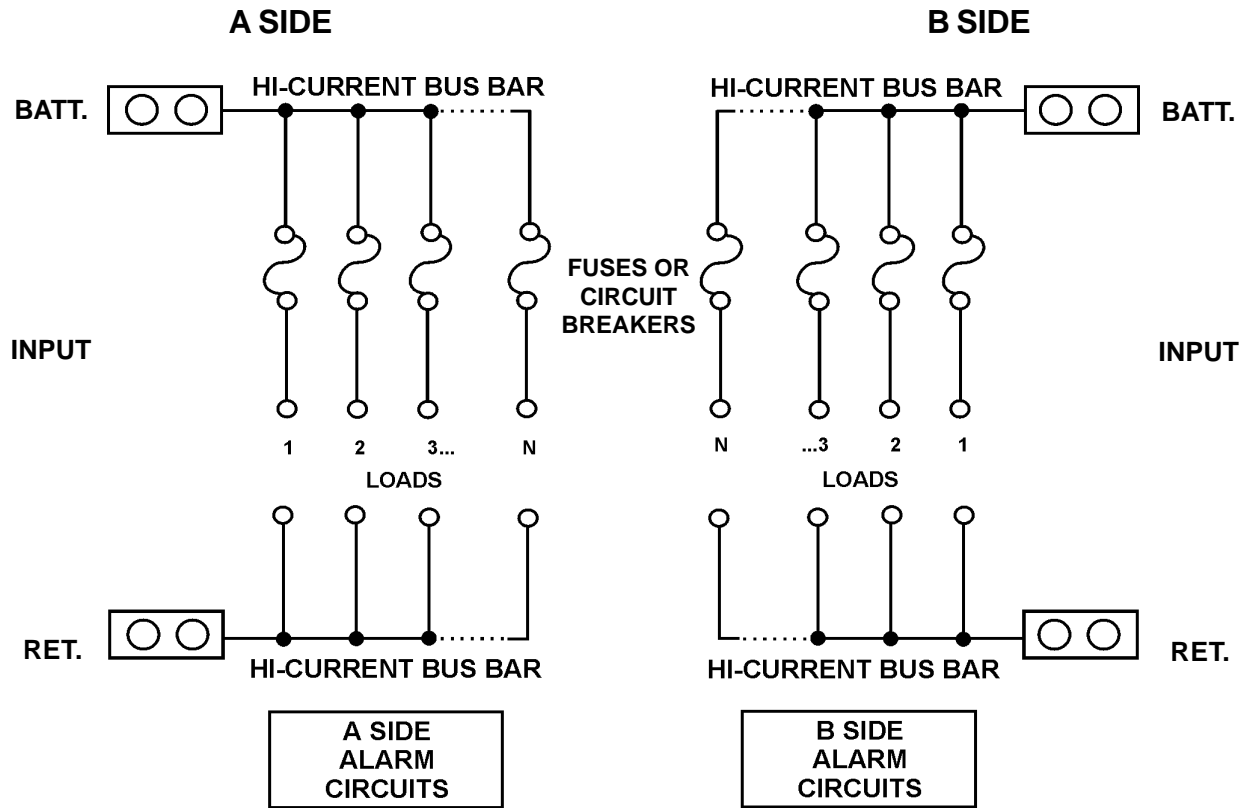

Figure 2. Functional Diagram of Distribution Panels
6.1 Power Distribution Circuits. A simplified schematic diagram of the distribution panels is shown in Figure 2. The battery input to each load connects to a high-current copper bus bar from which the individual fuses or circuit breakers distribute power to the loads. The return input connects to a similar bus bar to which the individual loads terminate. The A and B loads are totally independent and isolated.